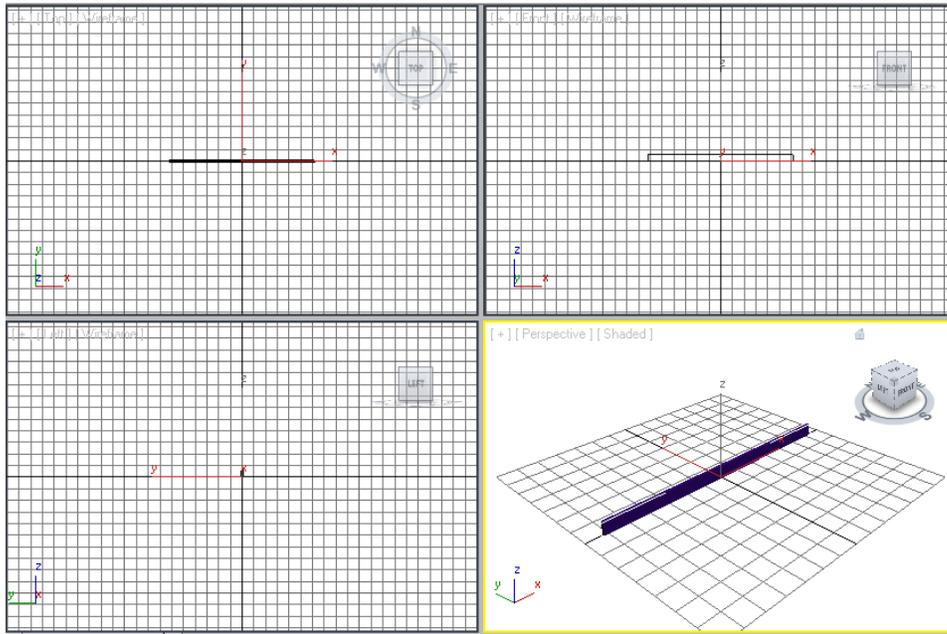

Figure 2-57 A box created in all viewports
- Choose the **Create** button from the **Keyboard Entry** rollout; a box is created in all viewports, refer to Figure 2-57.